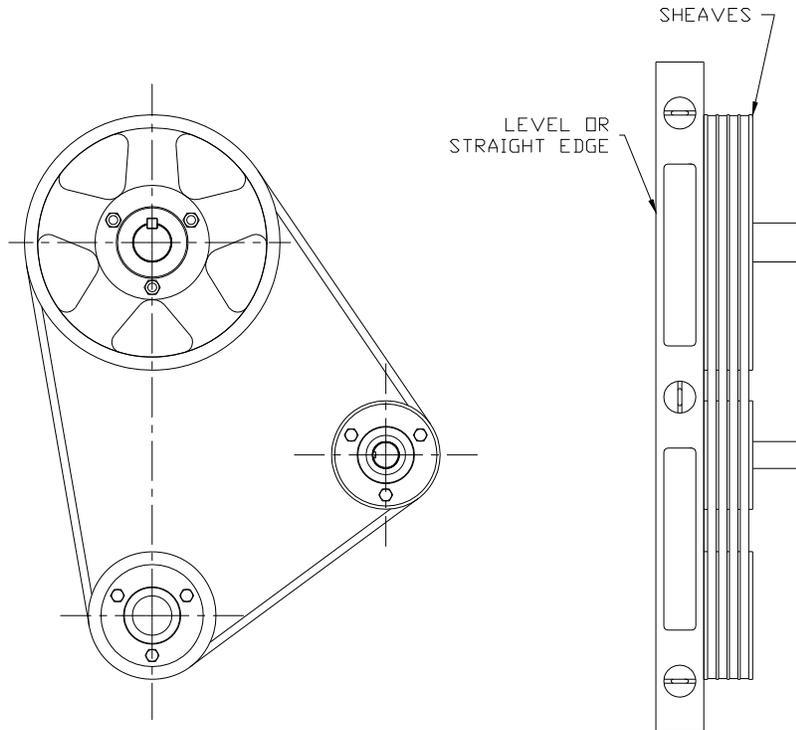

FIG 31
1. All sheaves MUST be aligned correctly to  $\pm 0.0625$ , or premature belt failure may occur. Use a long level to check sheave alignment (see Fig 31).